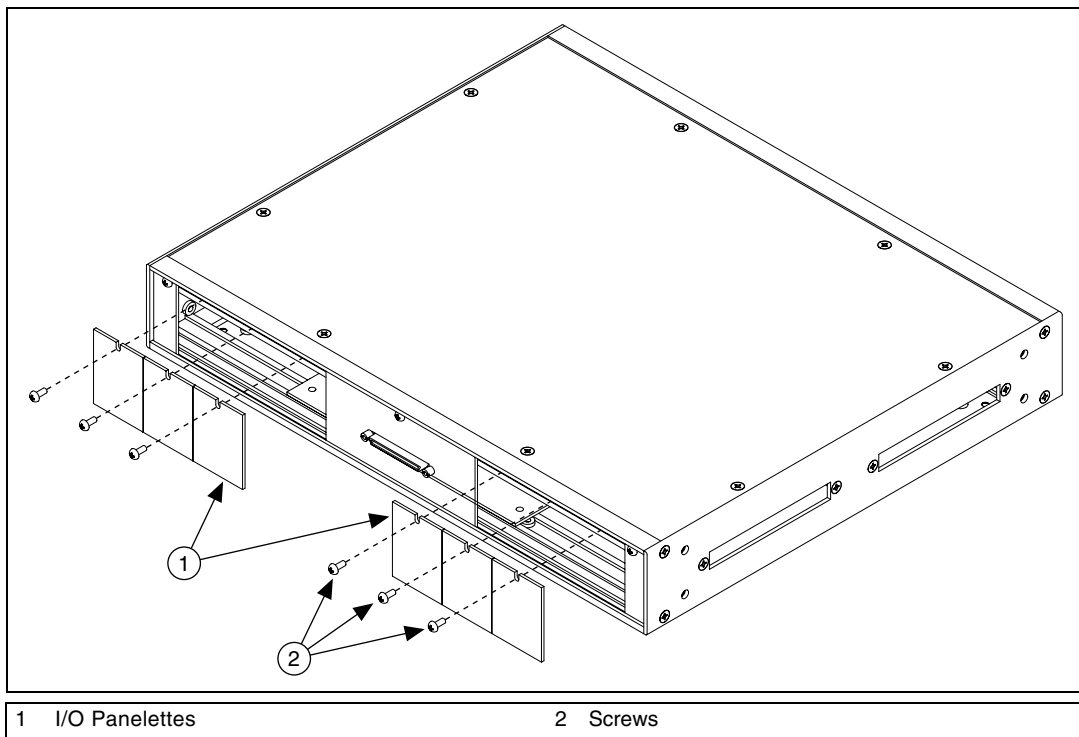

Figure 13. Install Blank I/O Panelettes
12. Install I/O panelettes in the unused panelette openings, as shown in Figure 13. The panelettes in the following figure are blank, but you can purchase many other types of I/O panelettes from NI. For more information on the other I/O panelettes, go to ni.com and search for I/O Connector Panelettes.